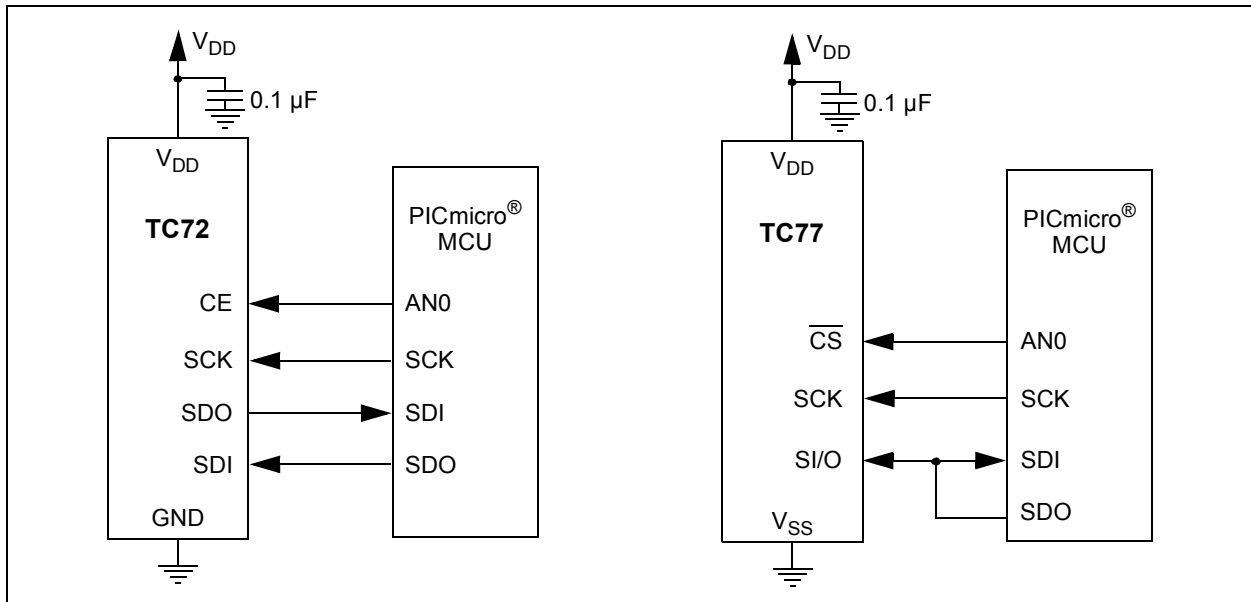

FIGURE 1: Typical Applications of the TC72 and TC77 Temperature Sensors.
The TC72 and TC77 are CMOS silicon temperature sensors that provide an accurate digital temperature measurement to solve thermal measurement problems. Data is converted from an internal diode temperature-sensing element to a digital format that can be directly interfaced to a microcontroller, as shown in Figure 1. The TC72 and TC77 sensors offer many system-level advantages, including the integration of the sensor and signal conditioning circuitry in a small Integrated Circuit (IC) package.